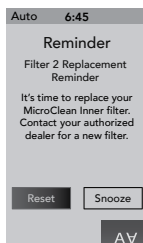

Figure 15.0e
24. **MicroClean Inner Filter Reminder:** This message will appear when the filter reminder time has expired (Figure 15.0e). The MicroClean Inner filter must be replaced.